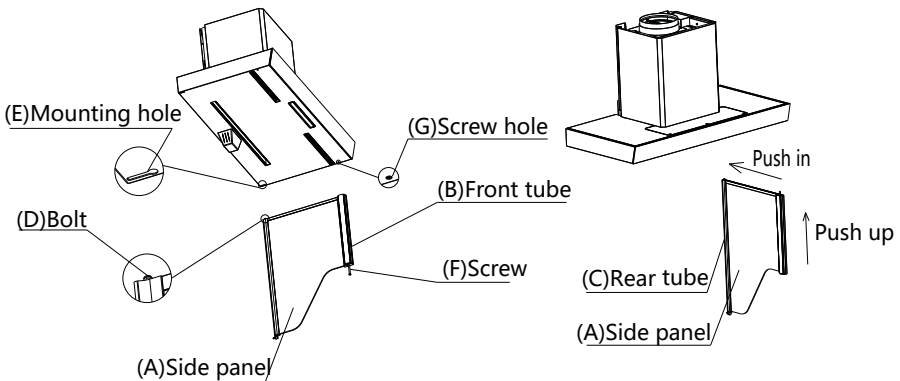

Figure 4.8
Take out the right side panel (A) (Left and right side are symmetrical) so that the front tube's (B) arch faces the inside of rangehood. The bolt (D) of rear tube (C) is aligned with the mounting hole (E). Install right side panel (A) onto the rangehood (push upwards then backwards to the end). Align and secure the screw (F) with screw hole (G) (see figure 4.8).